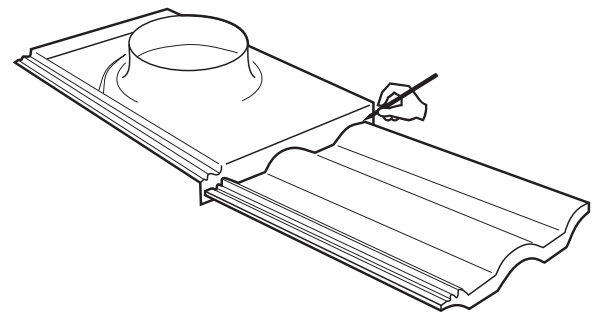

Figure 2.
1. Select the position where you want to install the Tile Fan and carefully remove one tile. Using the removed tile as a template, mark the profile on the front face of the Tile Fan base. (See Figure 2.)